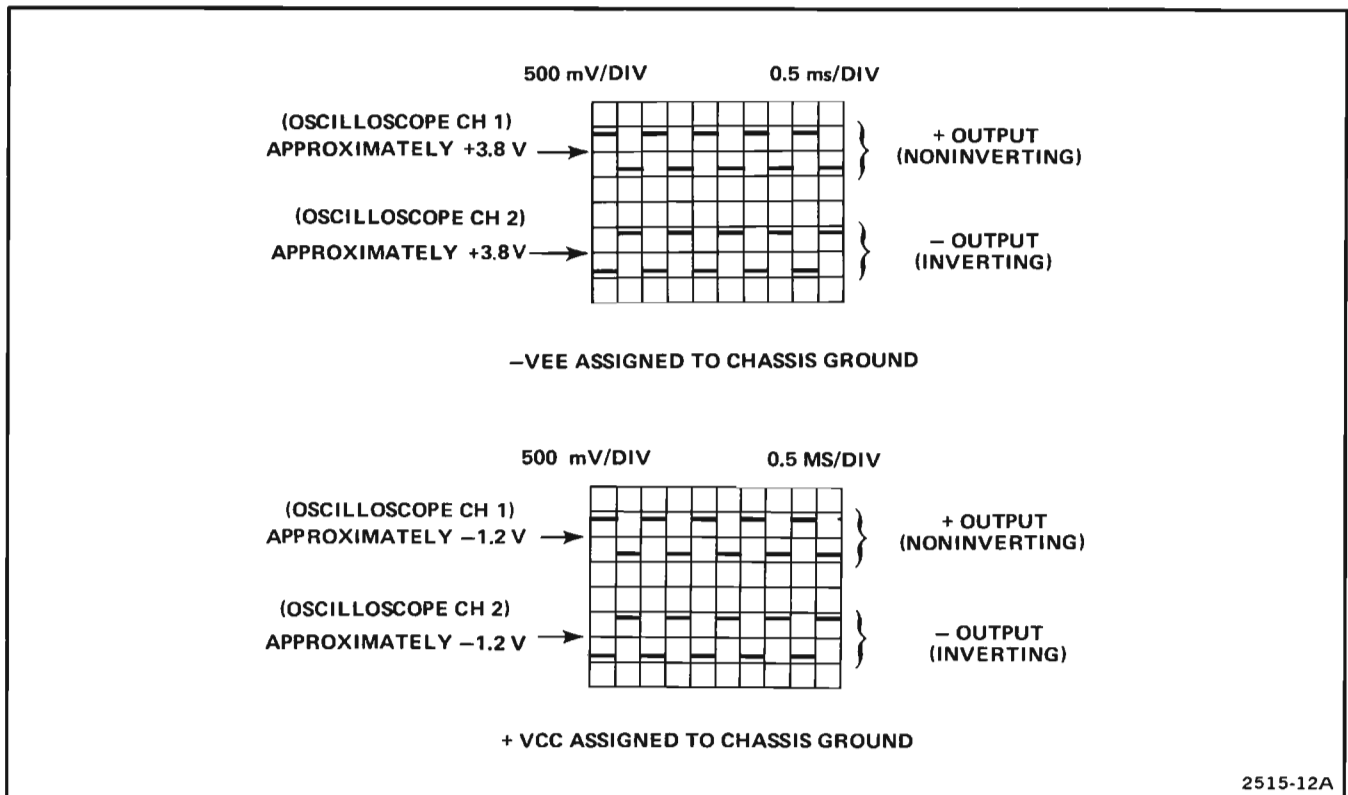

Figure 11. Typical channel output waveforms vs. supply voltage assigned.
- c. With a test oscilloscope, check the + (plus) output (noninverting) and - (minus) output (inverting) at the cable connector and at the circuit board for the correct output waveform (see Figure 11 for typical waveforms).